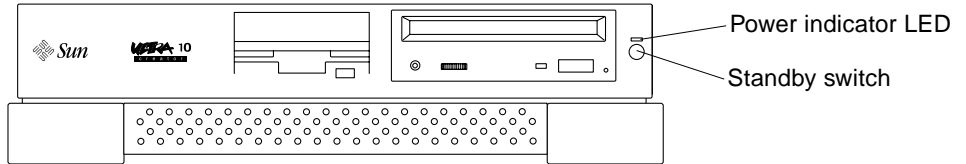
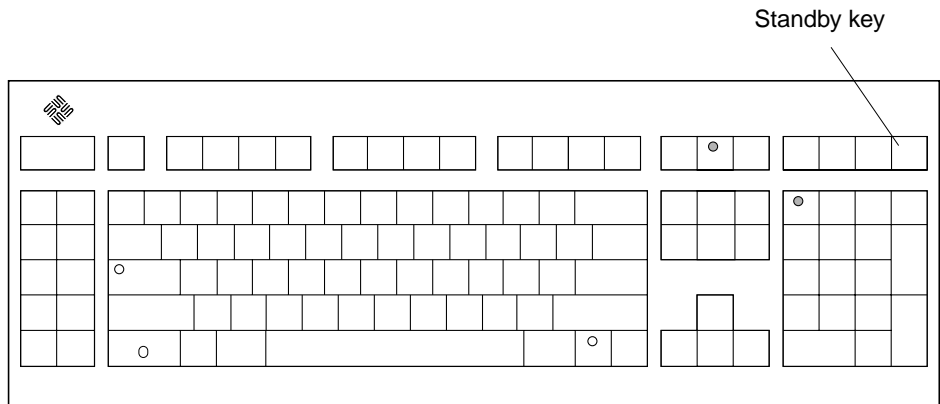
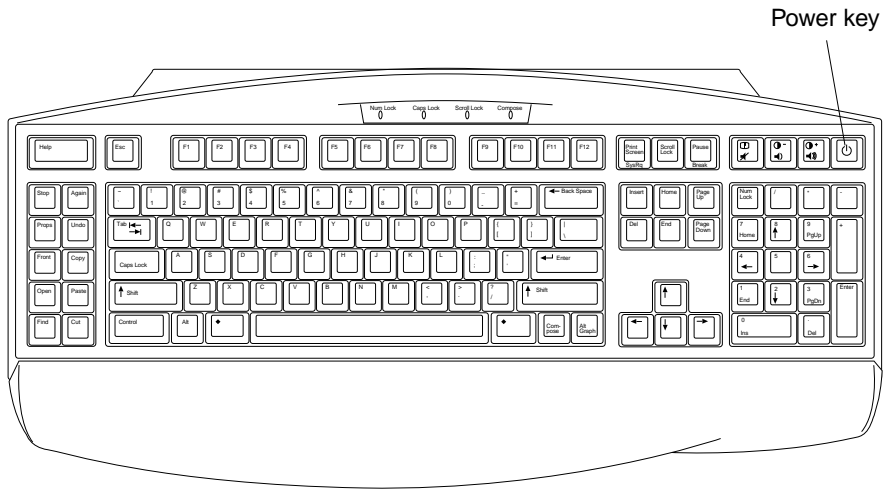

FIGURE 10-3 System Standby Switch
FIGURE 10-4 Sun Type-5 Keyboard
FIGURE 10-5 Sun I/O Type-6 Keyboard
5. Press the Standby switch (FIGURE 10-3), or press the Sun Type-5 keyboard Standby key (FIGURE 10-4) or the Sun I/O Type-6 keyboard Power key (FIGURE 10-5).